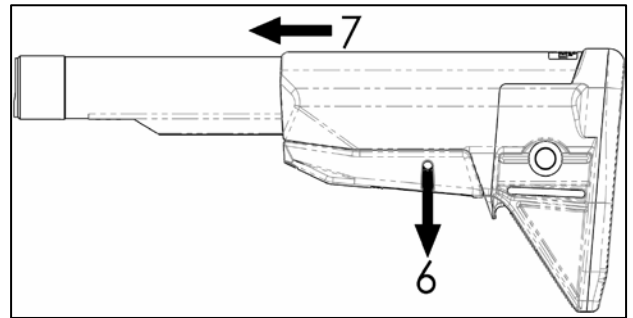

Figure 2.
6. Pull external hand lever down while keeping tool (rod) engaged inside the holes. (See Fig. 2.)
7. Slide stock completely onto the receiver extension. (See Fig. 2.) If it will not slide, pull down on rod/tool while trying to slide on. **NEVER use a hammer to force the stock onto the receiver.**